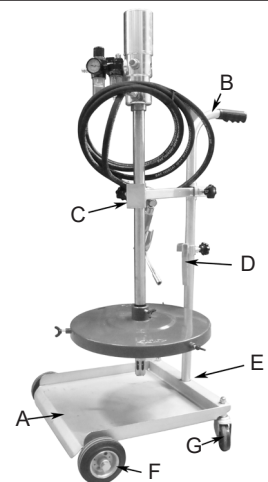

fig.1
4.1.1. Remove items from carton and identify pieces from contents list above using fig.1 and fig.2 as a reference.
### 4.2. ASSEMBLING THE TROLLEY (refer to fig.1).